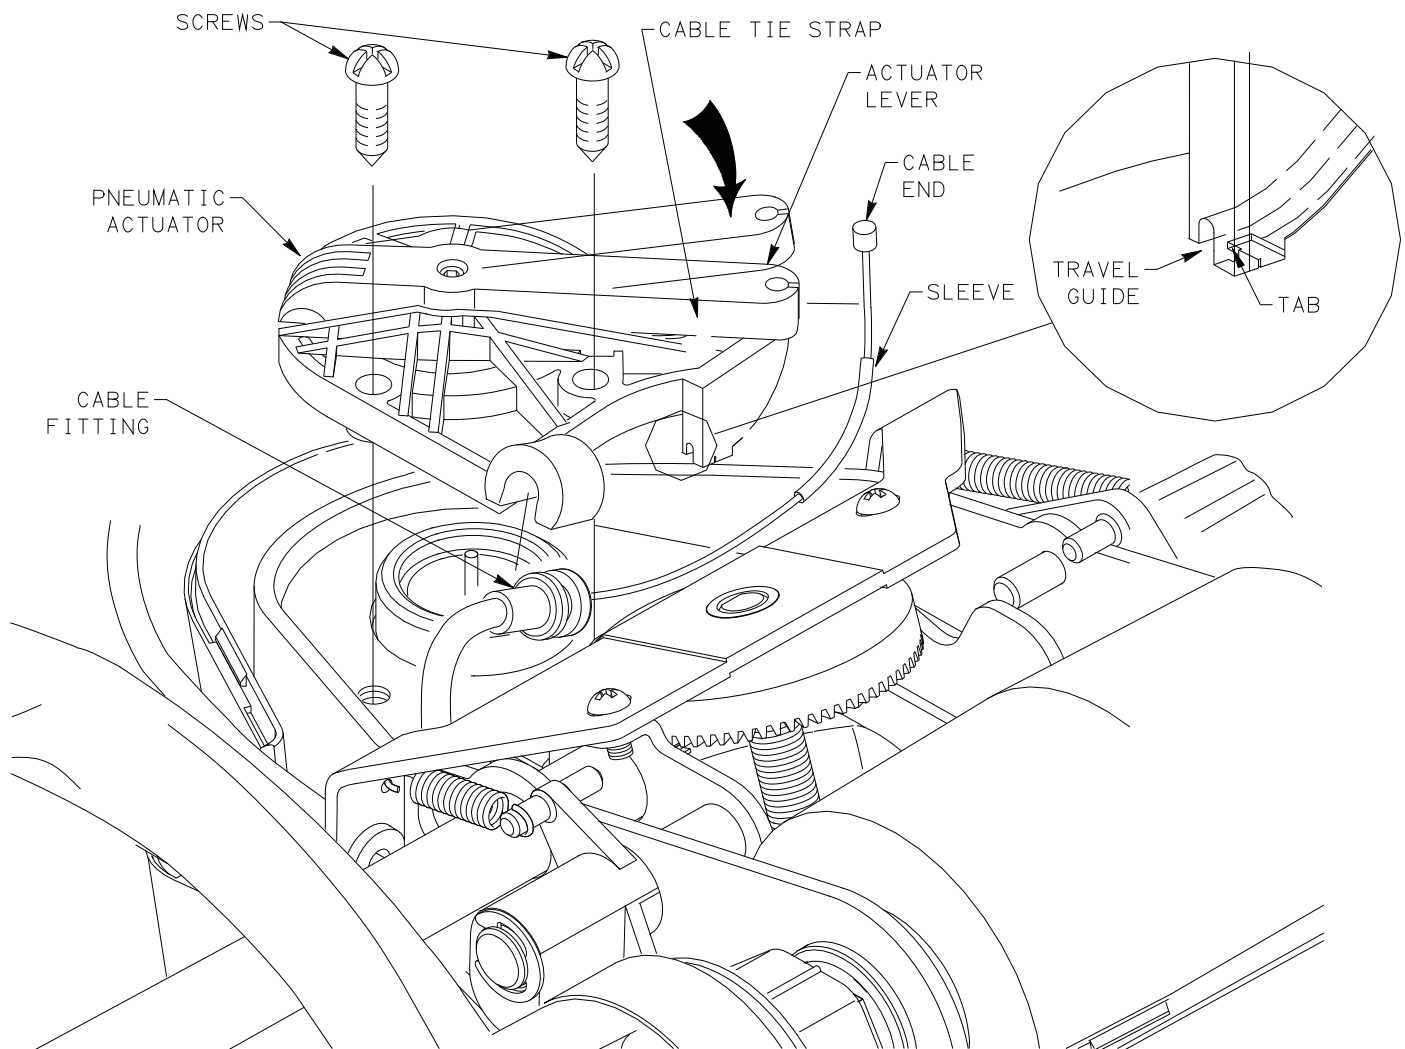

FIGURE 3
7. ATTACH PNEUMATIC ACTUATOR TO TILT WITH (2) SCREWS (PROVIDED). TIGHTEN SCREWS. SEE FIGURE 3.